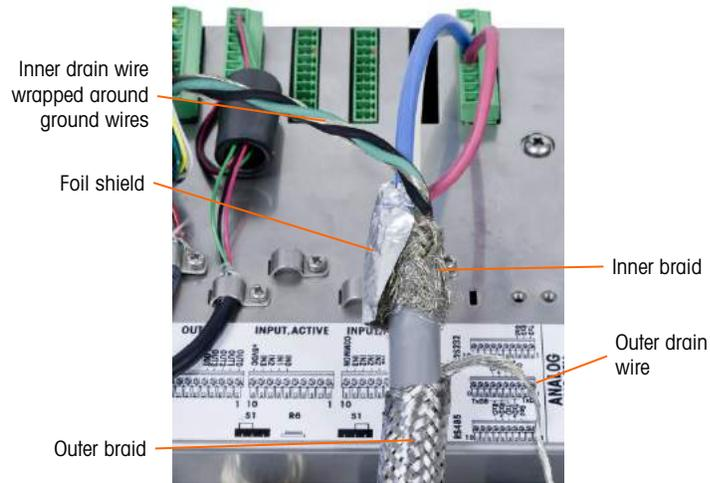

Figure A-67: POWERCELL PDX Home Run Cable, Panel Mount Enclosure
- a. Slide back the outer braid and fold the trimmed inner braid and foil shield back evenly over the edge of the cable insulation sheath, as shown in Figure A-67.